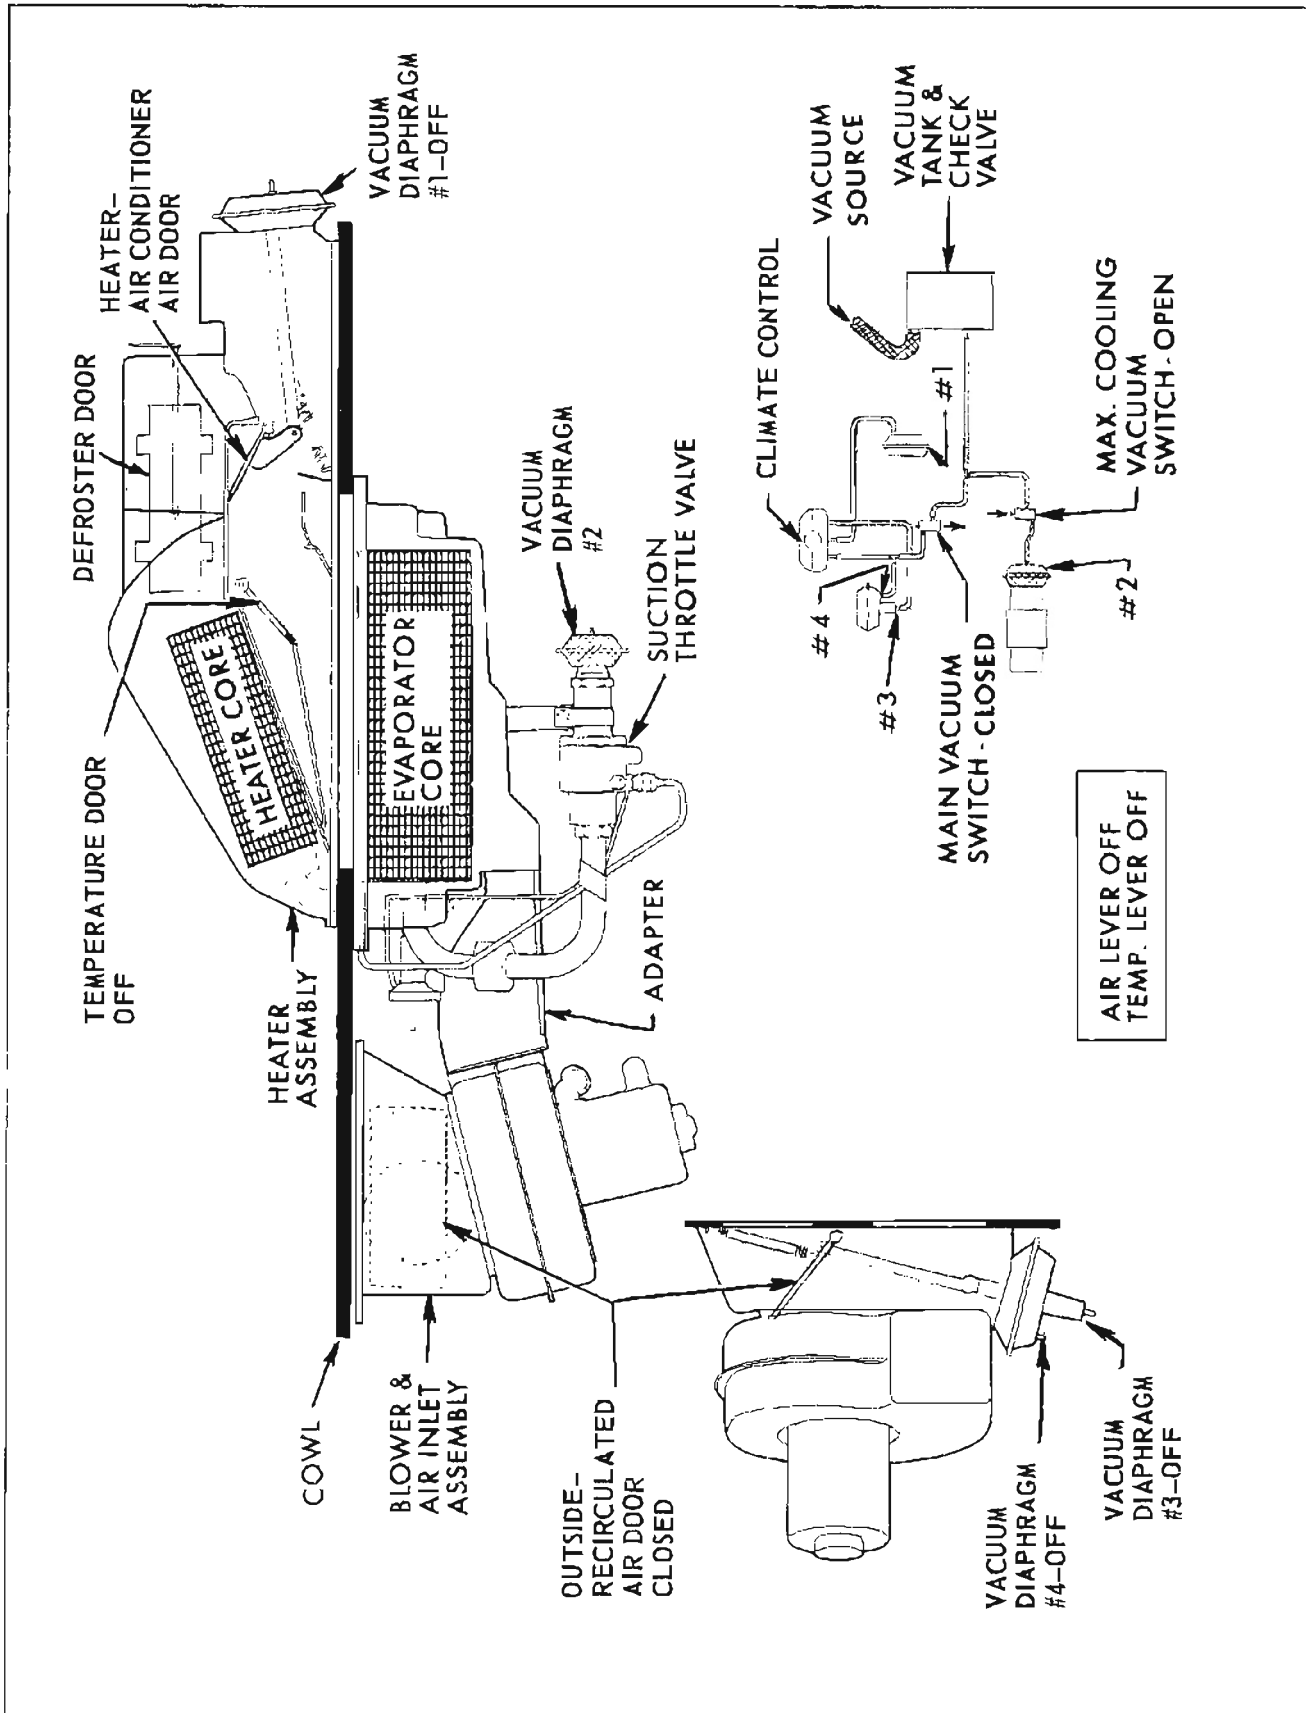
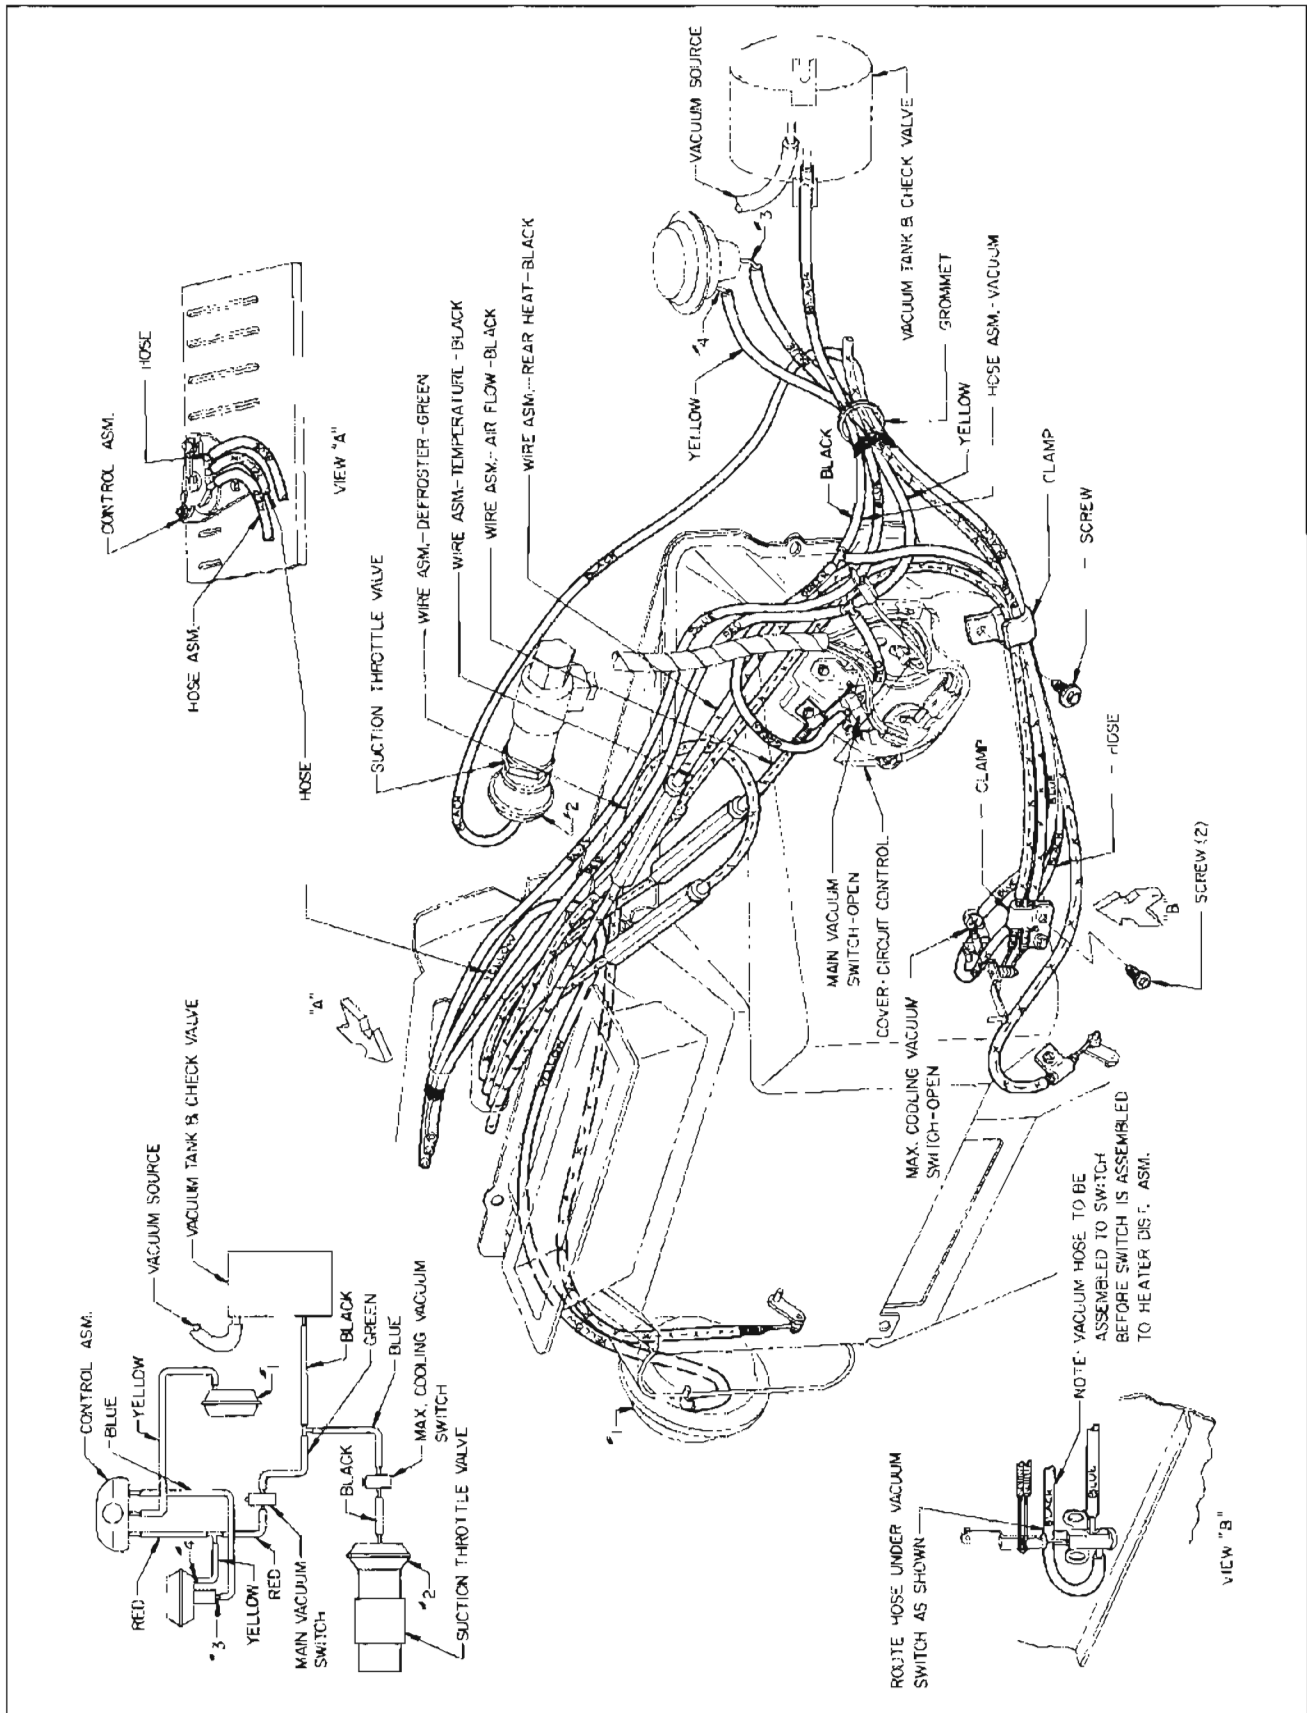

Figure 11-74—Air Conditioner and Heater Off - 4400, 4600 and 4800 Series
Figure 11-78—Vacuum Hose Installation - 4400, 4600 and 4800 Series
- When the air lever is in the off position, both the air conditioner and heater are off. The outside-recirculated air door is held closed by its spring and the blower will not be operating. The main vacuum switch is closed. See Figure 11-74. The maximum cooling vacuum switch is open if the TEMP lever is also in the off position. This allows vacuum to be present at the suction throttle valves vacuum diaphragm, even though the air conditioner is not operating.
If the air conditioner-heater air distribution system does not function properly, first check the vacuum hose connections and control wire adjustments. See Figure 11-78. If this does not correct, check for vacuum at vacuum diaphragms, for proper operation of vacuum switches and climate control. See Figures 11-74 through 11-77. Refer to following chart for other possible causes.
To adjust any of the control wires, set control levers in off position. Then rotate the adjuster so that the lever on instrument panel is 1/8" from full off position. See Figure 11-78.